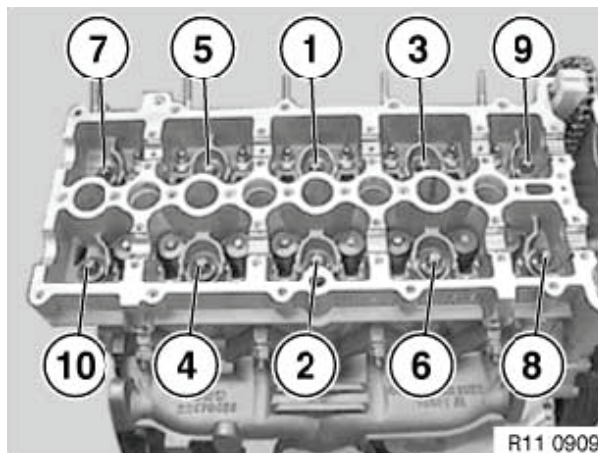

Figure 5-17
21. **4BY2 Engines:** Remove cylinder head bolts in reverse sequence, beginning with number 10 (**Figure 5-17**).